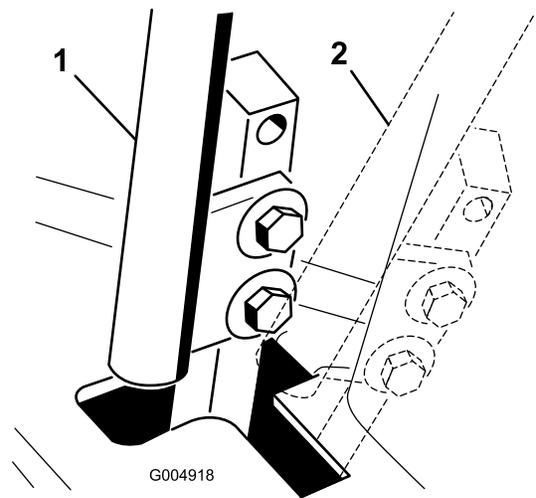

Figure 57
4. Move the control lever to the neutral position but **not locked** (Figure 57).
6. Check where the control lever is relative to notch in console (Figure 57).